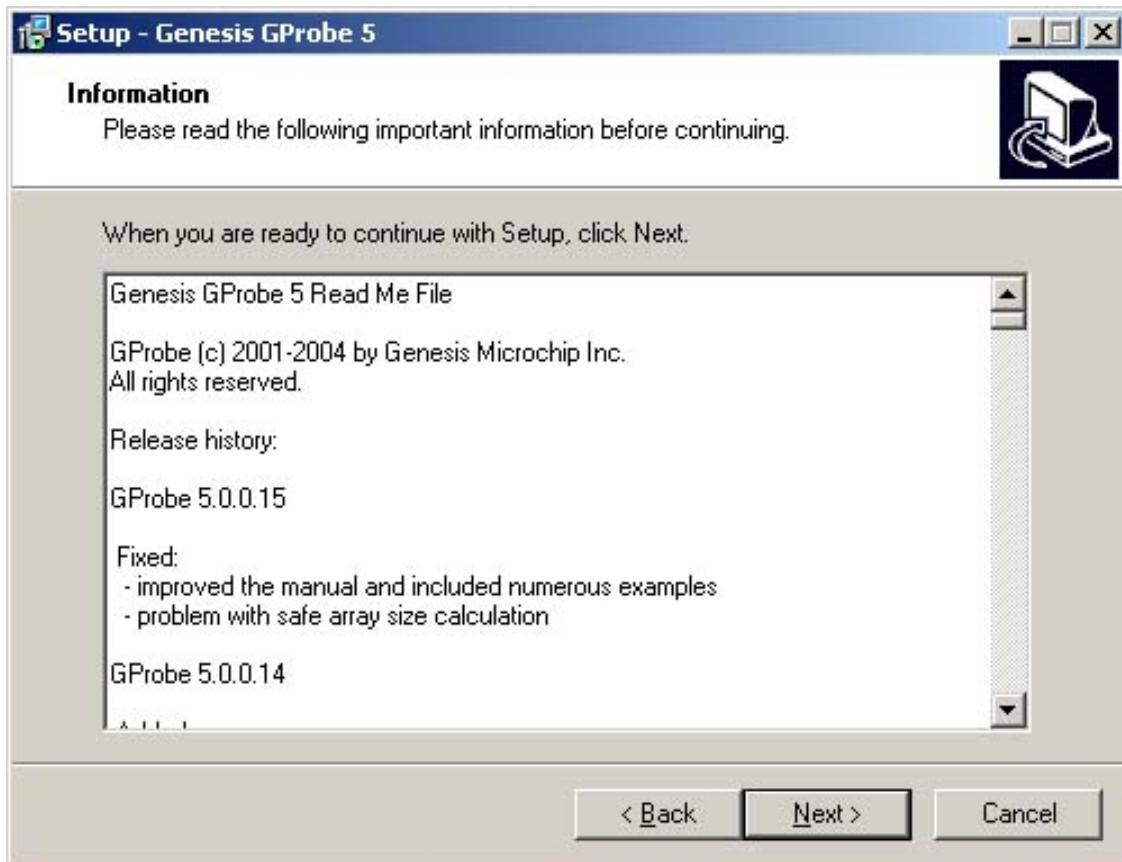

Fig. 0.3
0.3 Check the “I accept the agreement” then press “Next”, see Fig. 0.3